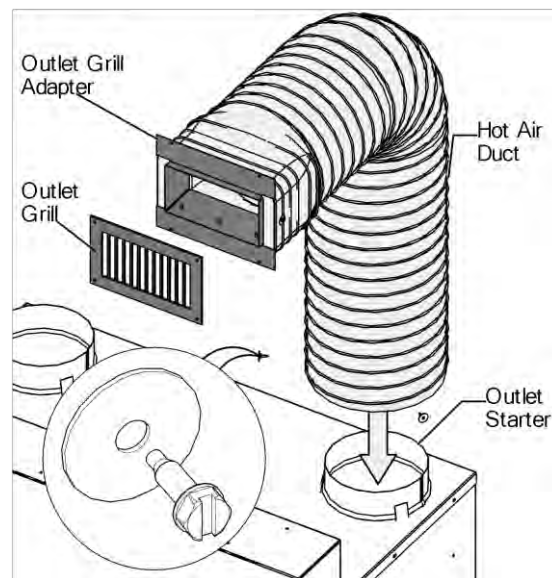

FIGURE 16 HOT AIR OUTLET ASSEMBLY
The HRS Hot Air Outlet Grilles diffuse the hot air from the fireplace enclosure into the living space. The Outlets consist of two 10" diameter insulated flexible ducts that are 5' long with grille adapters pre-installed and two 6" x 13 1/2" outlet grilles (see Figure 16).
1. Attach the round end of the insulated flexible ducts to the outlet starters on top of the fireplace (see Figure 16). Ensure the insulated flexible duct completely covers the outlet starters protruding above the top of the fireplace. Use three of the 1/2" self-tapping screws and three of the flat washers provided to secure each flexible duct to the outlet starter.